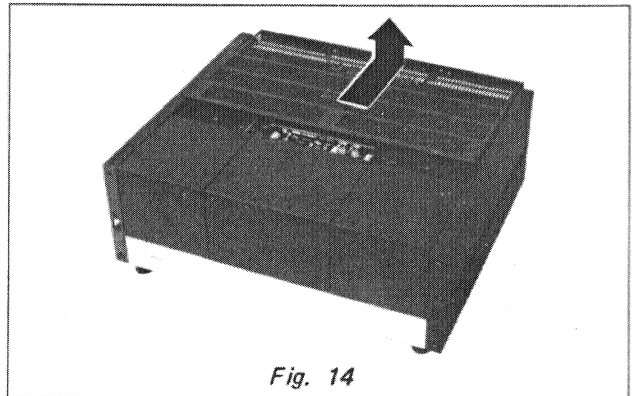

Fig. 14
- Remove the top cover in the direction shown by the arrow in Fig. 14.